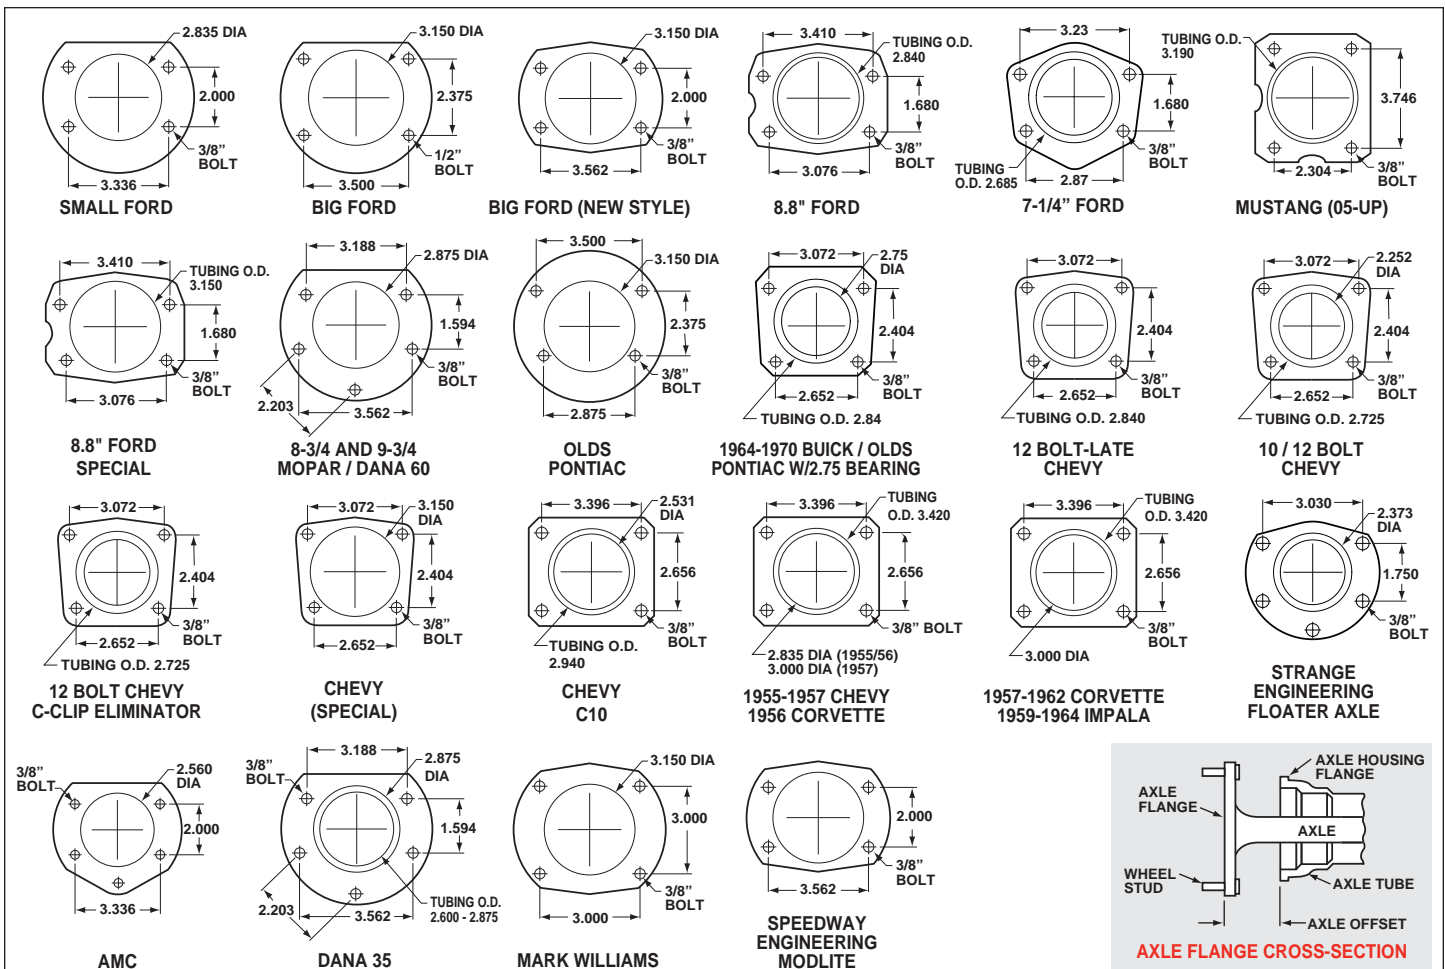

Figure 8. Rear Housing Flange Chart and Axle Flange / Offset Cross-Section
- Make sure this is the correct kit to fit the axle housing flange, not necessarily the rear end make. Many times after market manufacturers put a different make of axle housing flange on the stock rear end housing (see Figure 8). Example; Big Ford rear ends with Olds-Pontiac flanges, therefore, an Olds-Pontiac rear disc brake kit would be the correct kit to order. Also, shock clearance may be a problem. They may have to be modified and/or relocated to clear the Wilwood kit after final assembly.
Figure 8, lower right hand corner). This dimension is critical to ensure proper alignment of the rotor to the caliper, and should match offset given in the kit description.